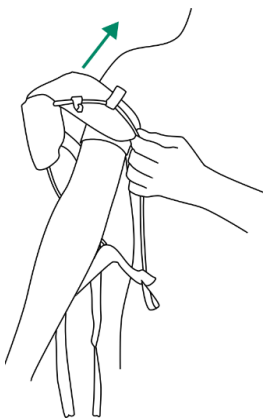

Figure 8
1. Put the arm through the bracket (Fig. 8).